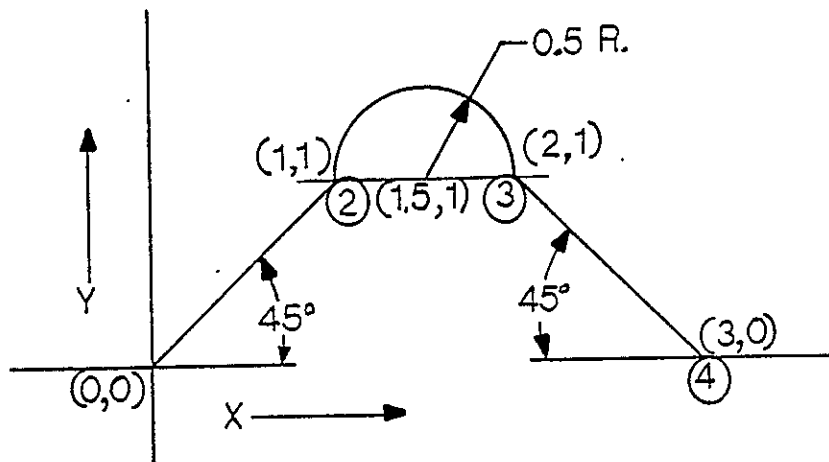
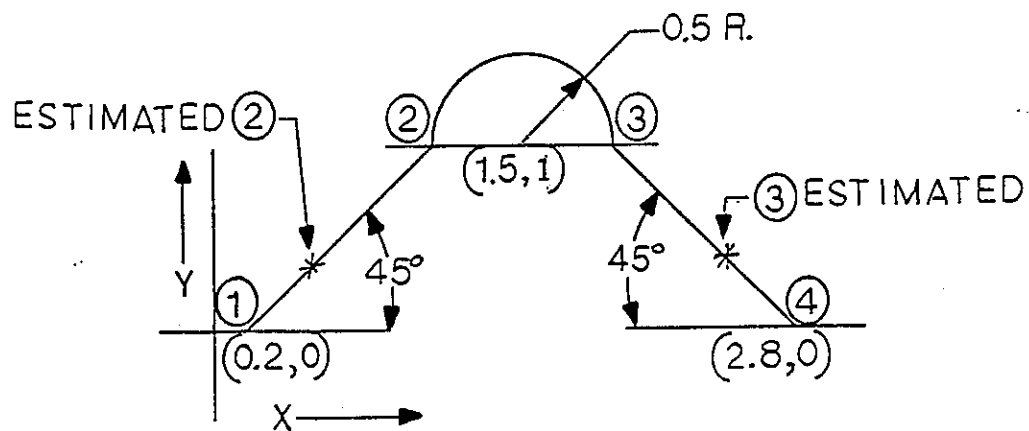

Figure 13.4.1 POINTS (2) AND (3) EASY TO FIND
Figure 13.4.2 "TRIG-HELP" REQUIRED TO FIND POINTS (2) AND (3)
In figure 13.4.1, the points (2) and (3) are very easy to find. On the other hand, in Figure 13.4.2, the solution is not so trivial. It needs calculations that would require a calculator.